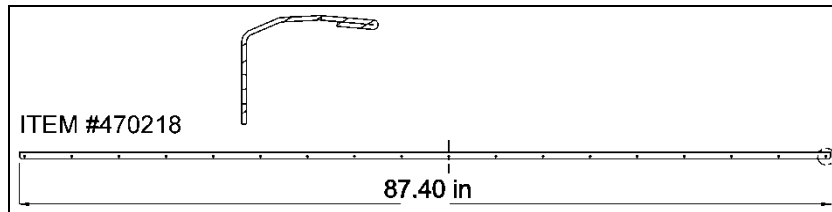

FIGURE 18: H3 SERIES UPPER DRIP EDGE
1. Identify drip edge #470218 and #470219 (FIGURE 18 & FIGURE 19).